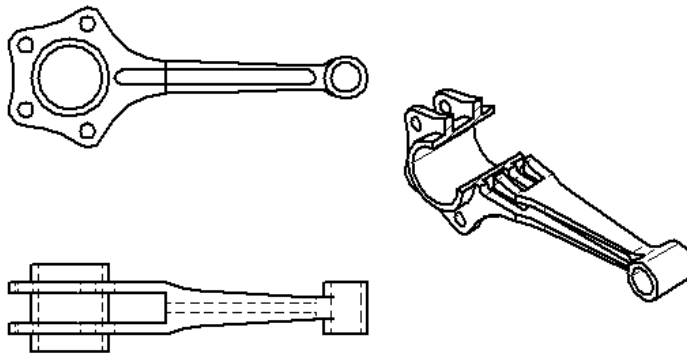

Figure 12-17 Isometric broken-out section view
- Select the isometric view (pictorial view) to generate the broken-out section view, as shown in Figure 12-17.